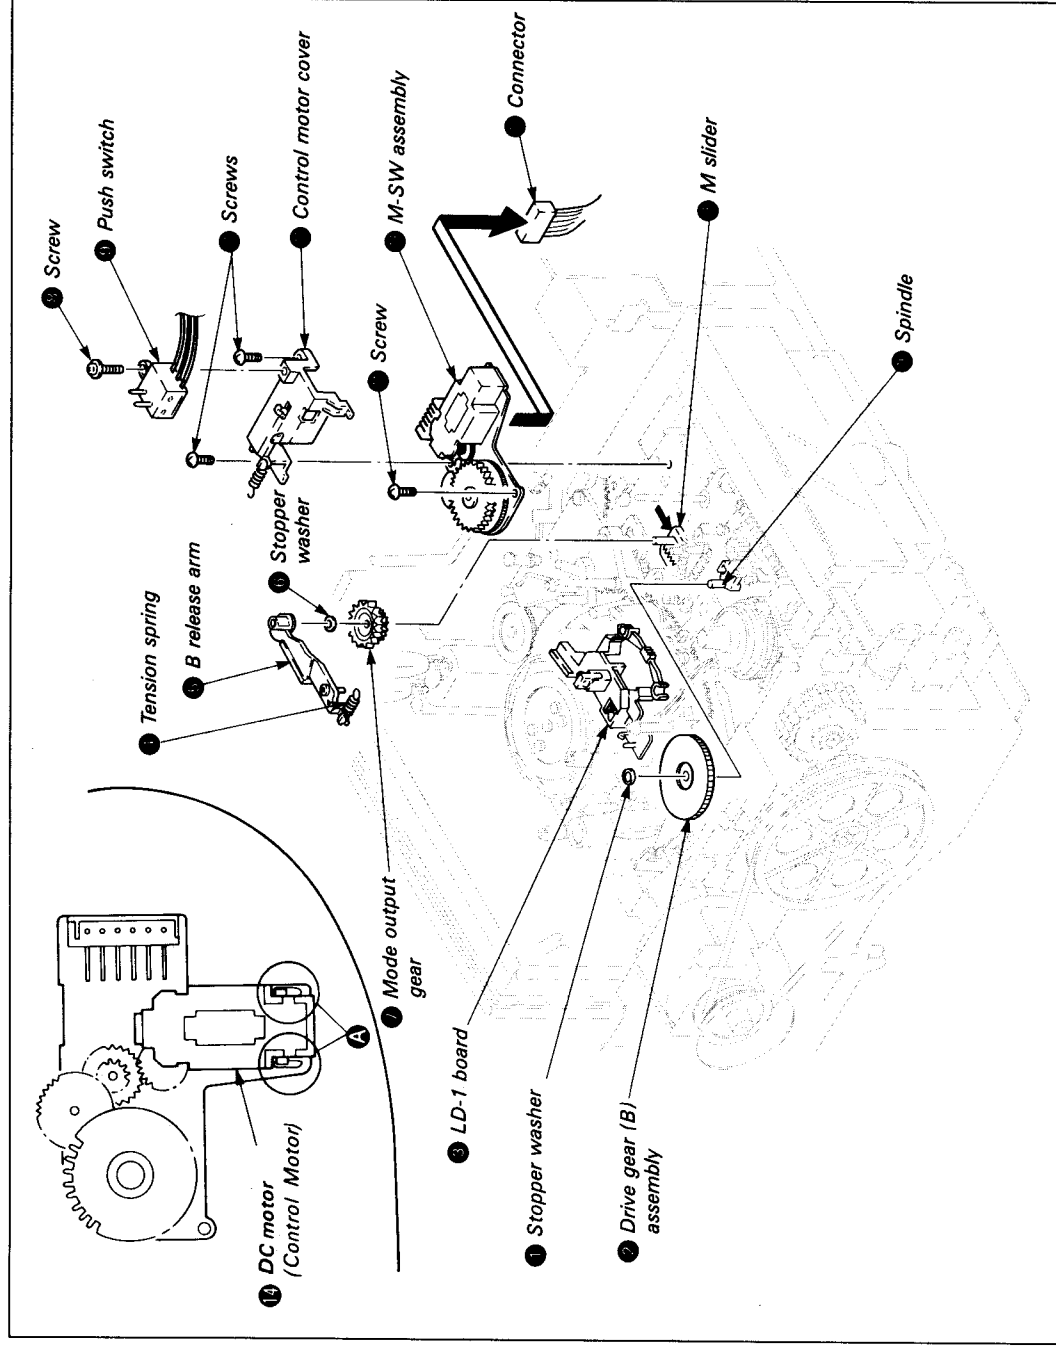

Fig. 7-38.
- 7) Place a half drop of oil on spindle ●. (See Fig. 7-38.)